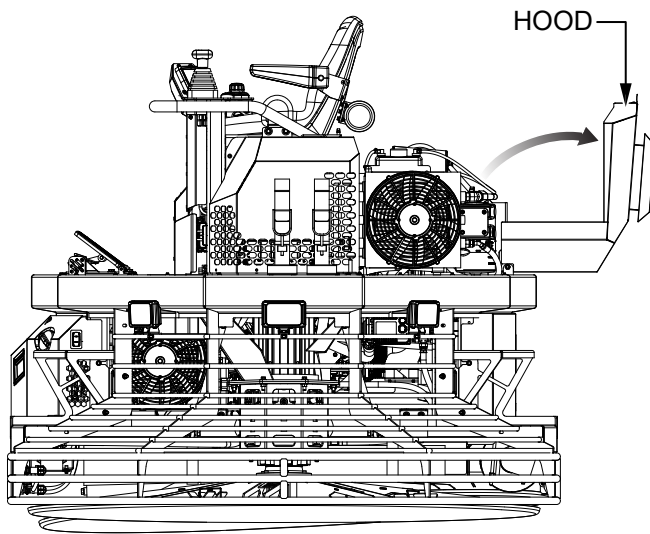

Figure 21. Float Hood (Open)
2. Open the hood as shown in Figure 21.
1. Make sure the float is on a secure, level surface with the engine stopped and the hood open as shown in Figure 21. Make sure the engine is cooled down to 110°F (40°C) or less.
1. Make sure the float is on a secure, level surface with the engine stopped and the hood open as shown in Figure 21.